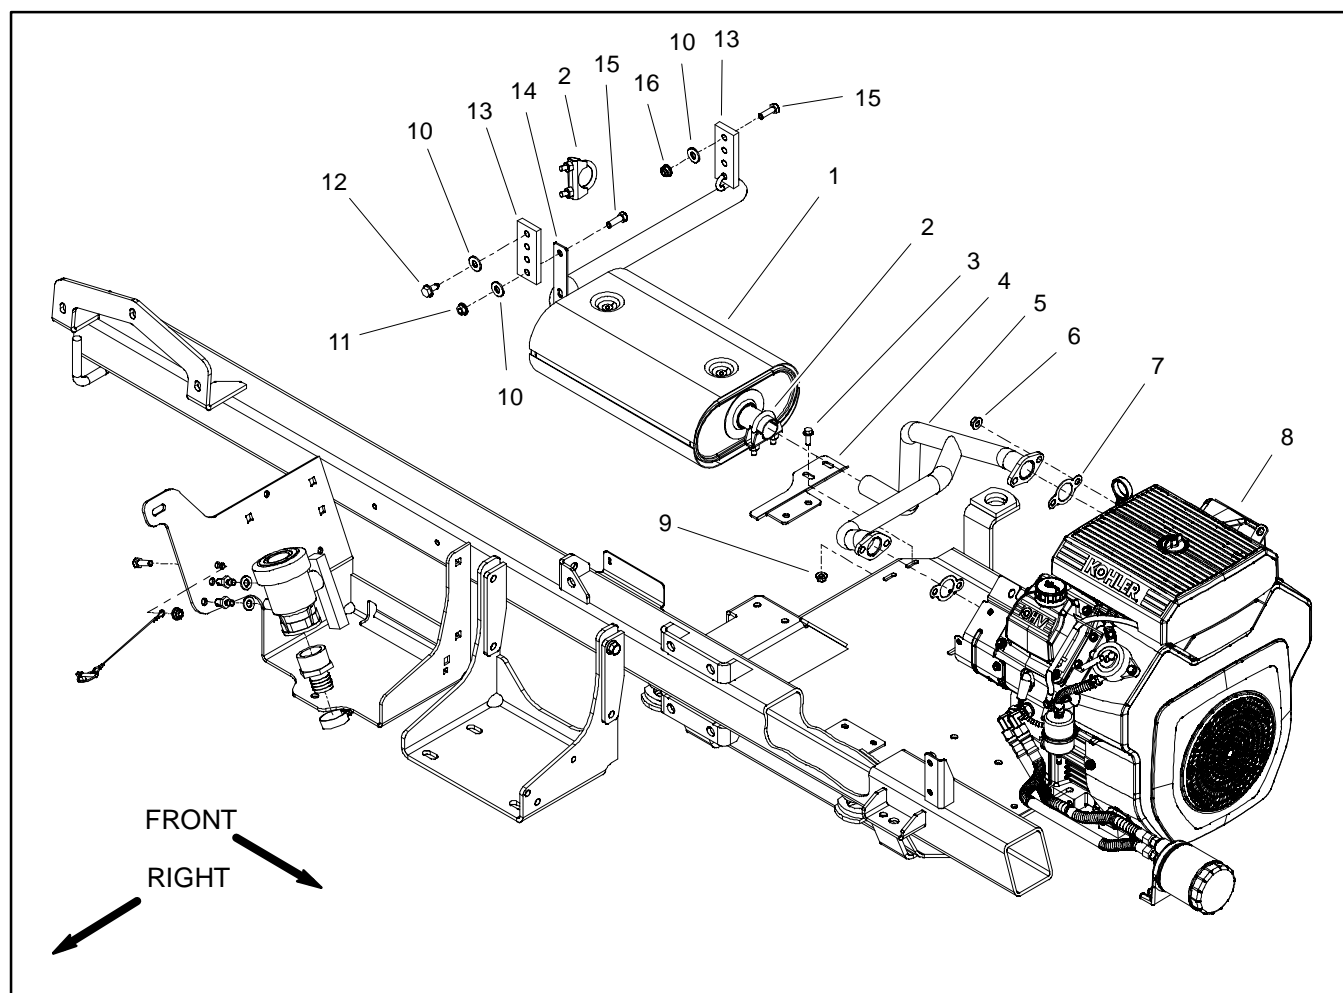

Figure 7
Removal (Fig. 7)
- B. Remove muffler clamp (item 2) that secures muffler inlet to exhaust manifold and exhaust support bracket (item 4).
- C. Remove fasteners that secure two (2) muffler hangers (item 13) to machine frame.
- E. If necessary, remove remaining mounting components from muffler using Figure 7 as a guide.
3. Remove four (4) flange nuts from the exhaust studs on engine. Remove exhaust manifold from the engine.
Installation (Fig. 7)
1. Place new exhaust gaskets on the exhaust studs on engine. Position exhaust manifold to the engine and install four (4) flange nuts.
- A. Install all removed mounting components to muffler using Figure 7 as a guide.
- C. Secure muffler hangers (item 13) to machine frame with removed fasteners.
- D. Install muffler clamp (item 2) to muffler inlet and exhaust support bracket (item 4).
- A. Four (4) flange nuts to secure exhaust manifold to engine.
- B. Fasteners to secure muffler hangers (item 13) to machine frame. Muffler hangers should be perpendicular to frame after tightening.
- C. Two (2) nuts on muffler clamp to secure muffler inlet to exhaust support bracket and exhaust manifold.